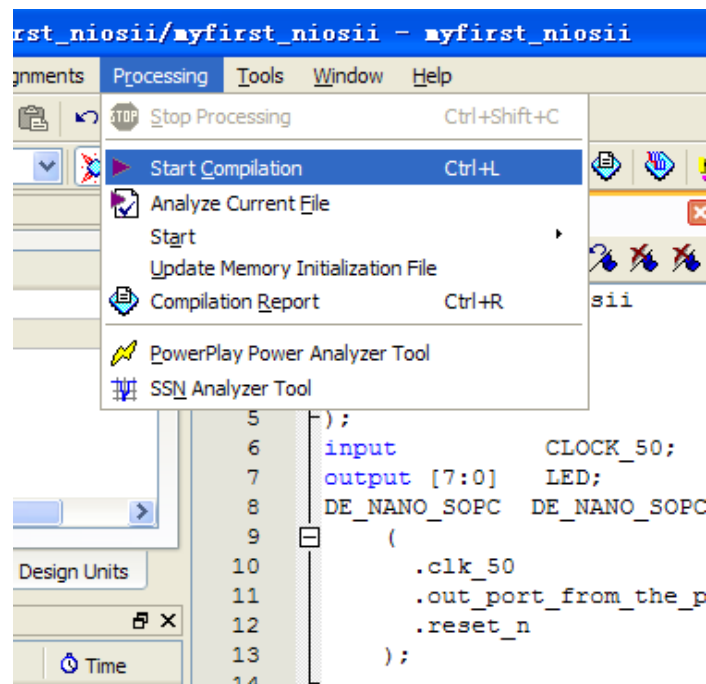

Figure 7-47 Start Compilation
36. Compile the project, by selecting **Processing > Start Compilation**, as shown in **Figure 7-47**. **Figure 7-48** shows the compilation process.